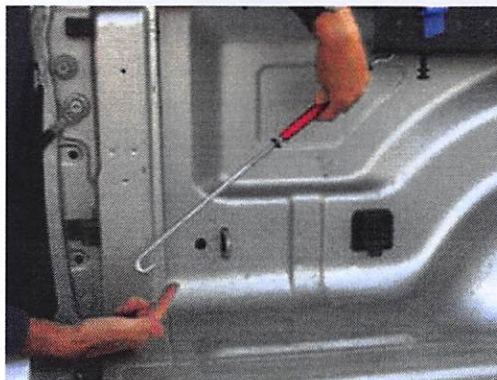
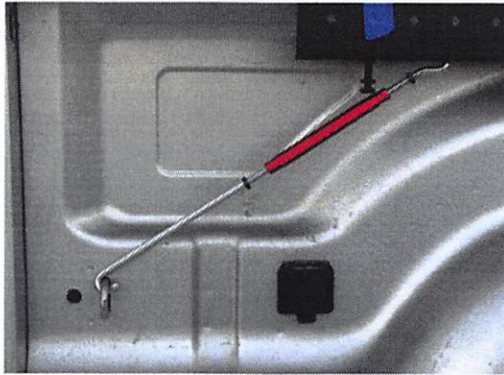

Figure 14: The turnbuckle installed improperly, no way of fully tightening it
Figure 15: The turnbuckle in a much better position ready to be fully tightened
Step 18: To install the turnbuckle put the hook through a bottom hole of the bed rail. Figure 14 shows the hook of the turnbuckle in the wrong spot, you would not be able to fully tighten it. Figure 15 shows the turnbuckle repositioned on the bed rails and can be fully tightened.